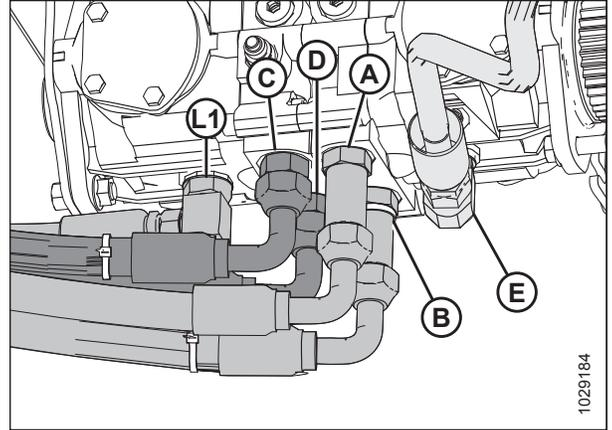

Figure 3.19: Model Years 2016–2019 Connection at the Pump (View from LH Side Cab-Forward)
- Model years 2016–2019: Refer to Figure 3.19, page 19. Six hoses attach to the bottom of the pump.